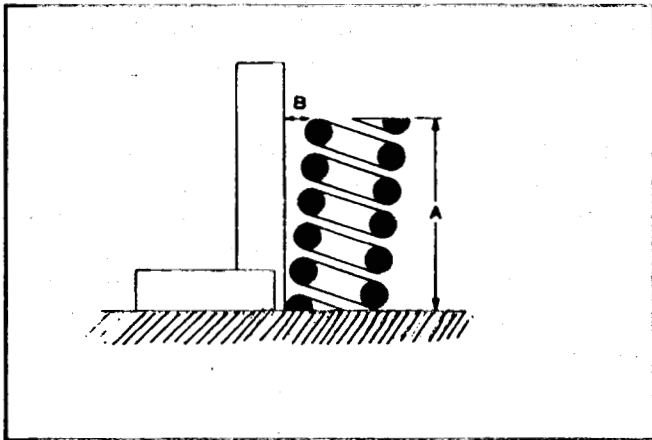

FIGURE 11-7. MEASURING VALVE SPRING
Check valve springs for cracks, worn ends, distortion, and tension. If spring ends are worn, check valve spring retainer for wear. Check for spring distortion by placing the spring on a flat surface next to a square. Measure height of spring (A) and rotate it against square edge to measure distortion (B), see Figure 11-7. If distortion exceeds 0.06 inch (1.5 mm) replace the spring. Check spring tension at the valve open position using an accurate valve spring tester. Replace any valve spring that is weak, cracked, worn, or distorted.